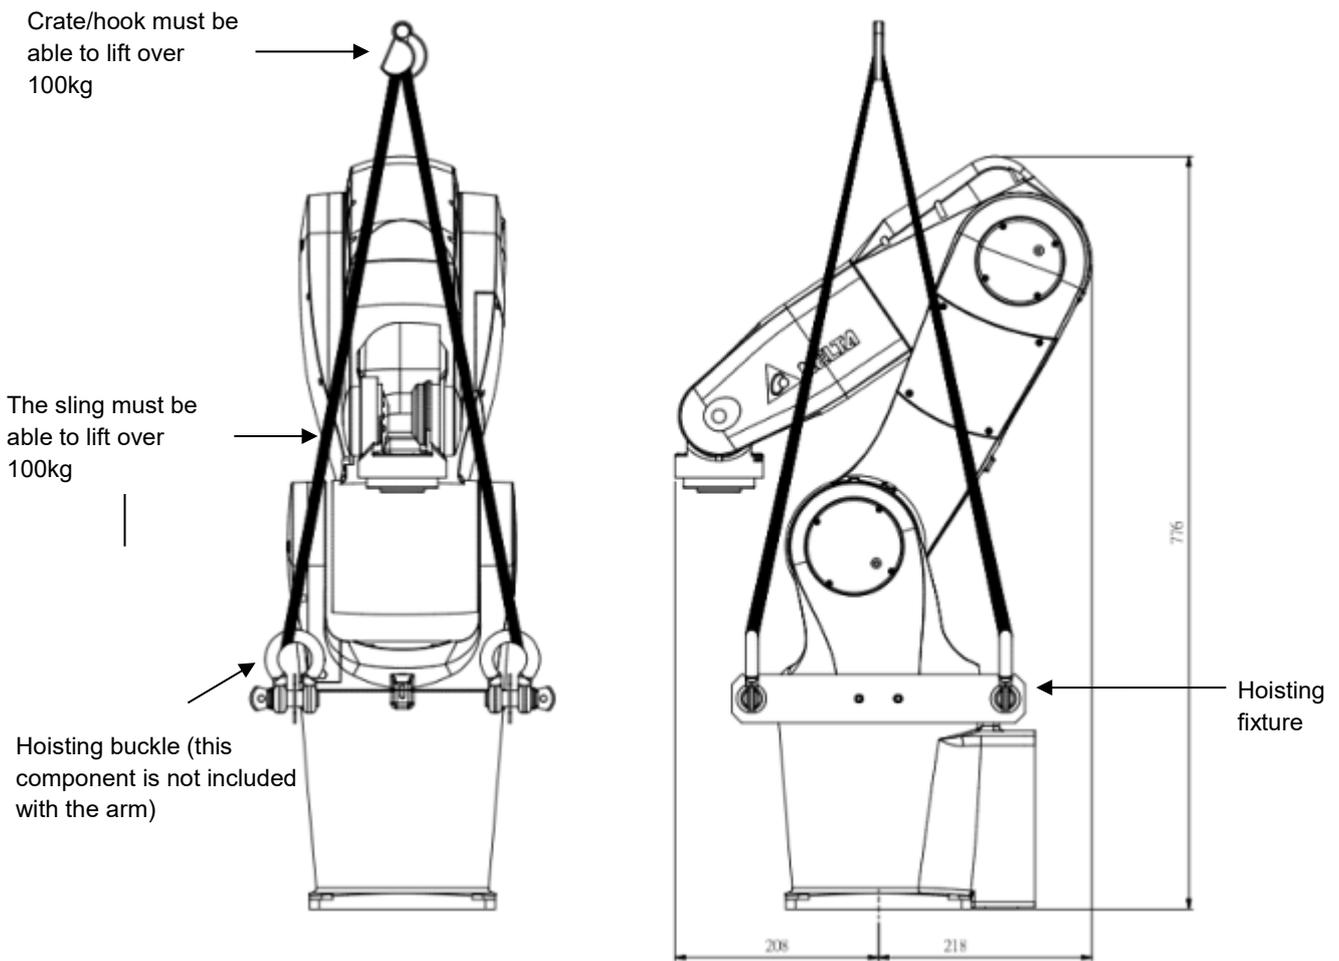

Figure 2.4 DRV70/90L7D/E series hoisting transportation description
5. When transporting the robot, please have at least 2 or more movers with professional training to perform the transportation operation. When implementing the transportation operation, connecting the power, or transporting while the arm is still in operation, are strictly prohibited in order to prevent worker casualties or damaging the arm. Hoisting transportation method is as described below figure 2.4.